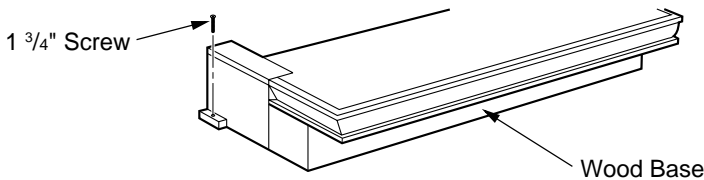

Figure 13 - Attaching Wood Base to Floor
10. Attach wood base to floor with two 1 3/4" black screws provided (see Figure 13). If the floor is concrete use anchor method (see *Attaching Wood Base to Solid Floor*, page 17).